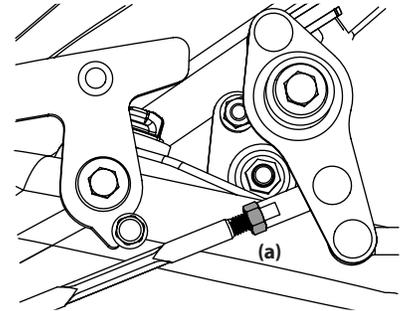

Figure 4-23
4. Loosen the jam nut (a) and zero out the transmission. See Figure 4-23. Perform on both sides of the mower.